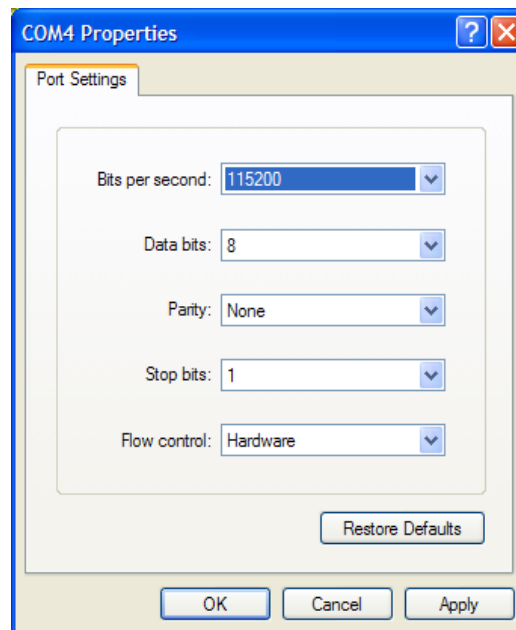

Figure 2-17—Factory Default Communications Settings for **IW** Are **115200, 8, None, 1, FLOW CONTROL** Should Read **Hardware**.
4. In the **COM[X] Properties** dialog, change to the default **IW** settings as shown in **Figure 2-17**. Click **OK**.